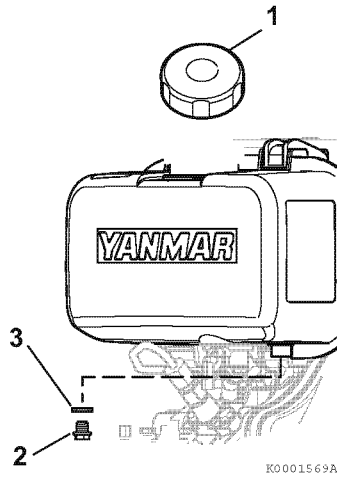

Figure 9
2. Remove the fuel cap (1, **Figure 9**).
3. Remove the fuel tank drain plug (2, **Figure 9**) and gasket (3, **Figure 9**) to drain the fuel.
9. Tighten the fuel tank drain plug (2, **Figure 9**) with new gasket (3, **Figure 9**).
10. Refill fuel tank. Replace the fuel cap (1, **Figure 9**) and hand tighten. Overtightening the fuel cap will damage it.